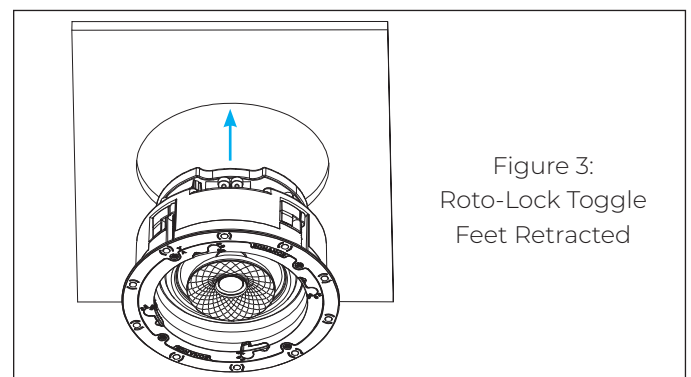

Figure 3:
7. Make sure all the Roto-Lock toggle feet are retracted so that the speaker can fit within the mounting hole (see Figure 3).